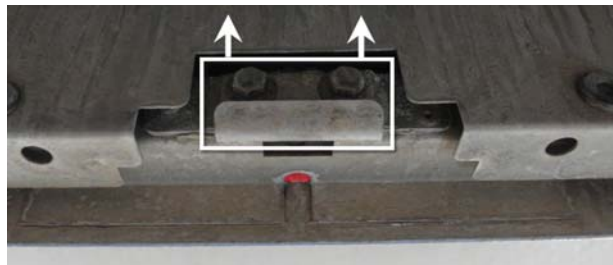

FIGURE 57 : KEEPER
23. If the hatch has moved down, it may be necessary to move the keeper down slightly (FIGURE 57). To do so, loosen the mounting bolts (2 bolts) and move the keeper in the direction shown with arrows. Firmly tighten the keeper bolts once adjustment is done).